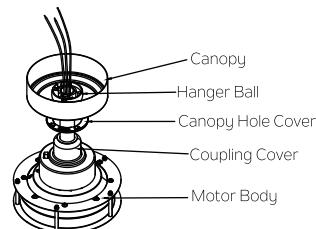

Fig. 8
Step 4. Slip the coupling cover, canopy hole cover and canopy onto the downrod. Carefully reinstall the hanger ball onto the downrod . Make sure the cross pin is in the correct position and the set screw is tight and the wires are not twisted . (Fig. 8)